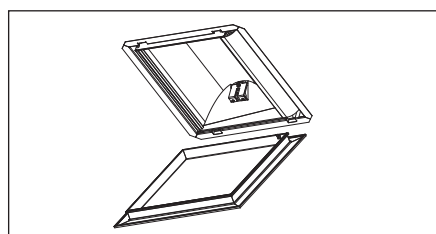

Fig. 13
8. Clip fascia into the unit. Fig 13.
4. Clip fascia into the unit. Fig 13.